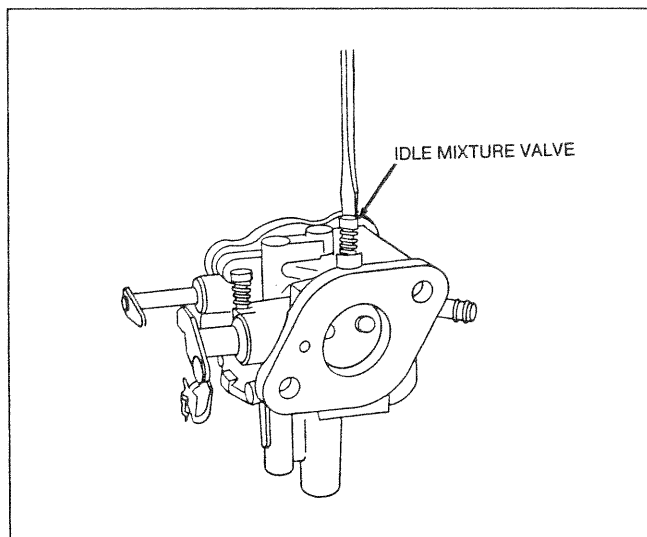

Figure 131. Idle Mixture Valve Removal
- Remove idle mixture valve (Figure 131).